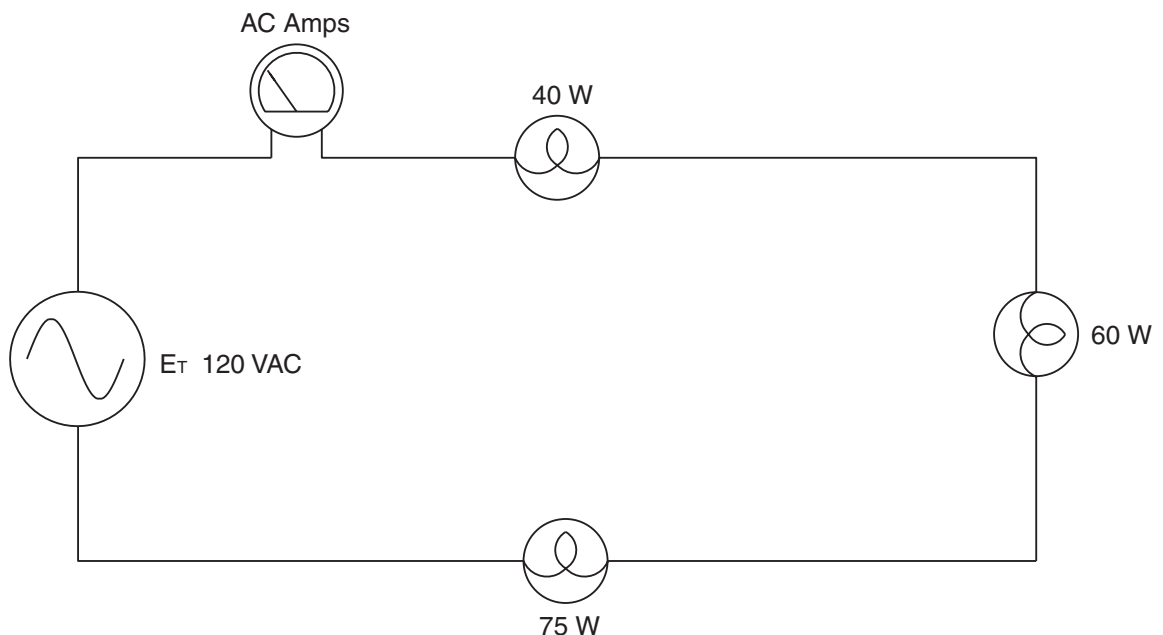

Figure 3-6 Connecting the third series circuit.
17. Replace the 100 watt lamp with a 40 watt lamp as shown in Figure 3-6.